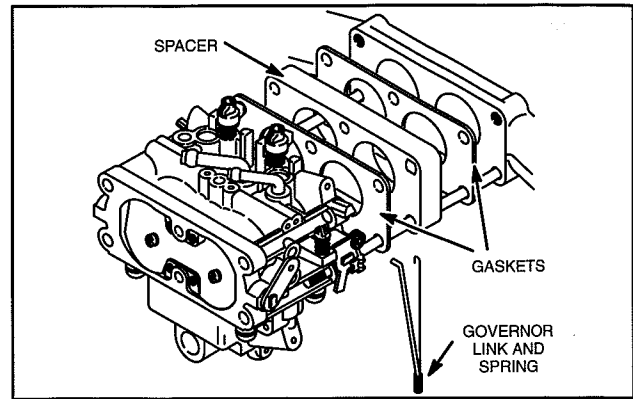

Fig. 4 – Removing Carburetor
6. Remove carburetor gaskets and spacer, Fig. 4.